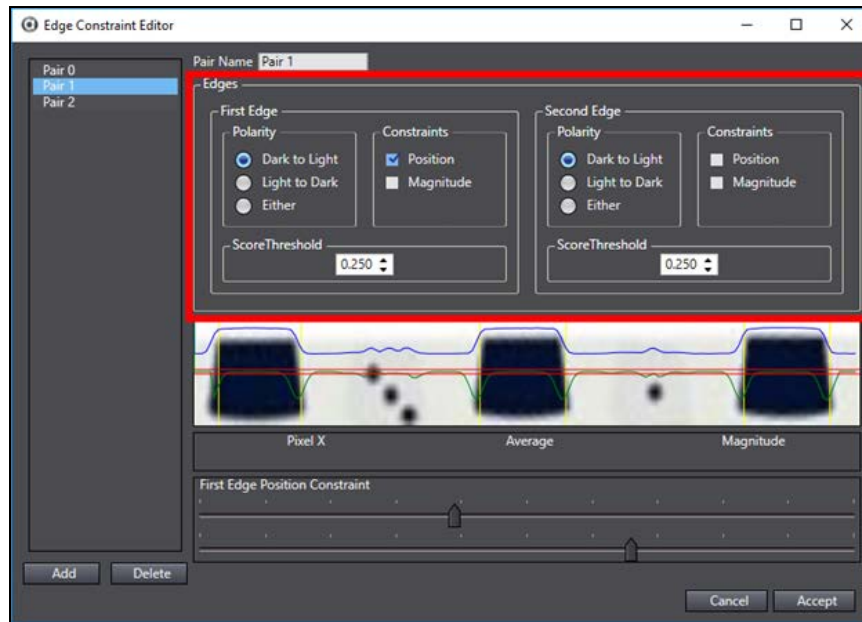

Figure 8-220 Arc Caliper - Edge Constraint Editor - Edges
- **Polarity:** defines the gray level deviation for which the tool searches. This is performed with respect to the clockwise direction of the region of interest. For example, in Figure 8-220 Dark to Light is selected for both edges, and in both cases, the left side of the edge is black.